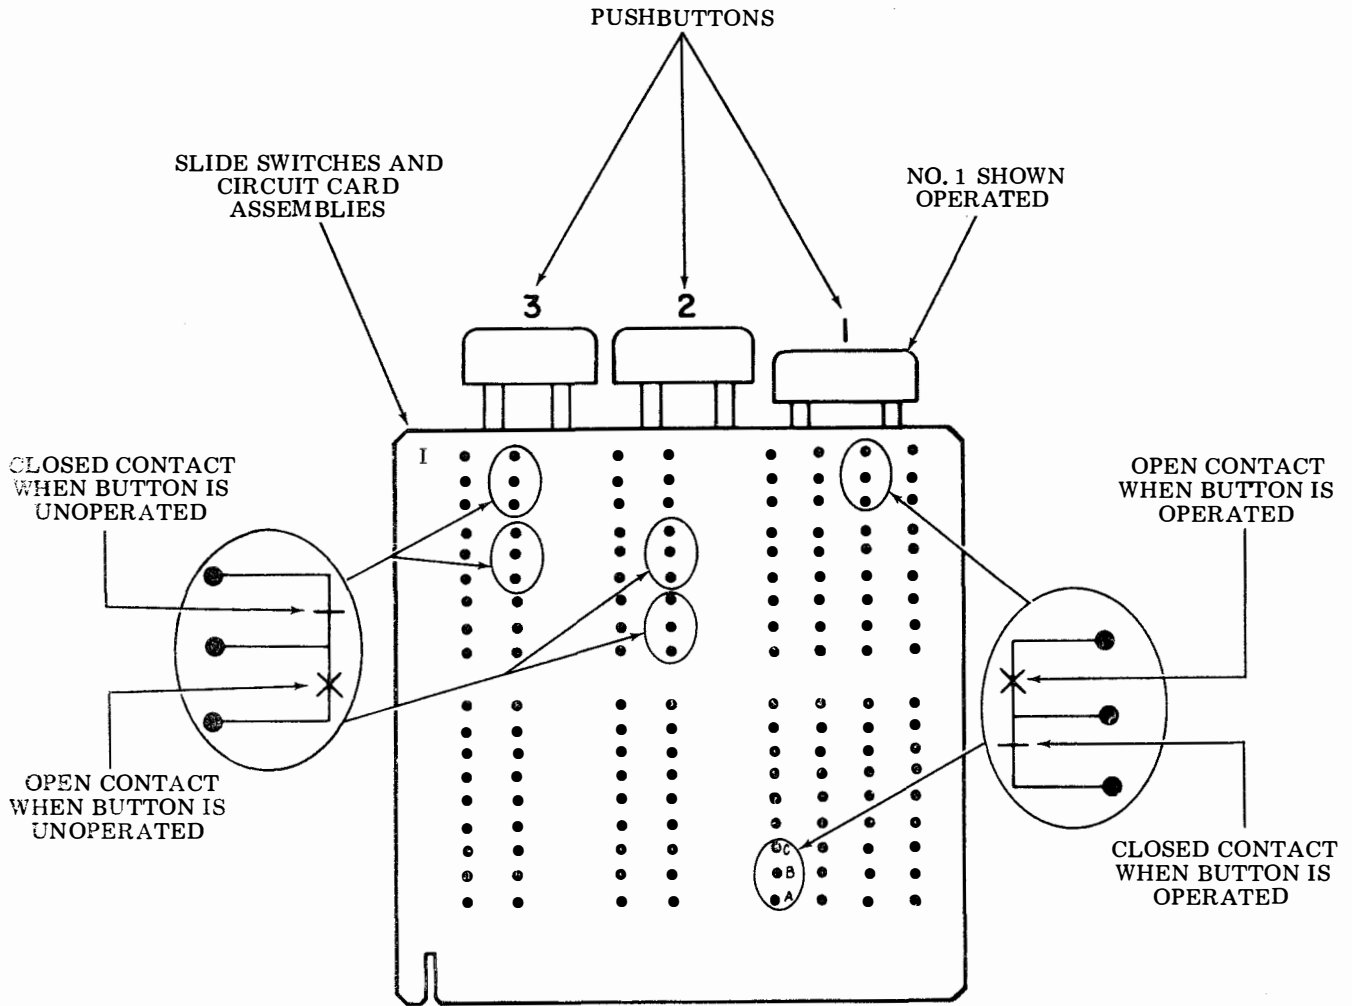

Figure 8 - Spare Switch Contacts
2.02 The switch assembly consists of four sections, each comprised of 12 transfer-type switches. Three pushbuttons activate the switch sections (Figure 8). Pushbuttons no. 2 and no. 3 operate one switch section each (with two spare sets of contacts for each section). Pushbutton no. 1 operates two switch sections (with two spare sets of contacts, one set for each section). These spare contacts may be used for locally engineered applications (refer to Figure 8 for illustrated details).